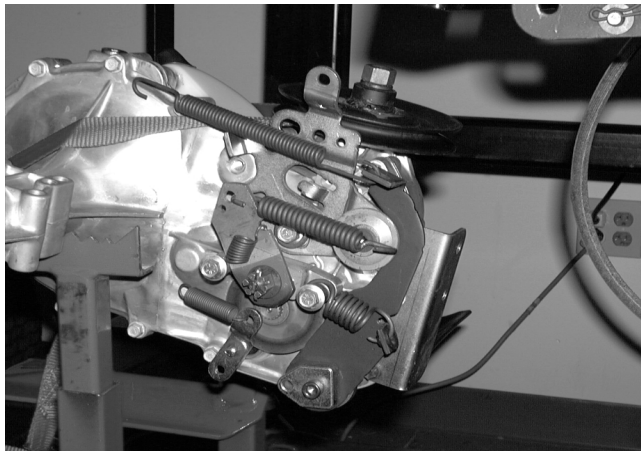

FIGURE 15.
23. Secure the tractor frame. See figure 15.